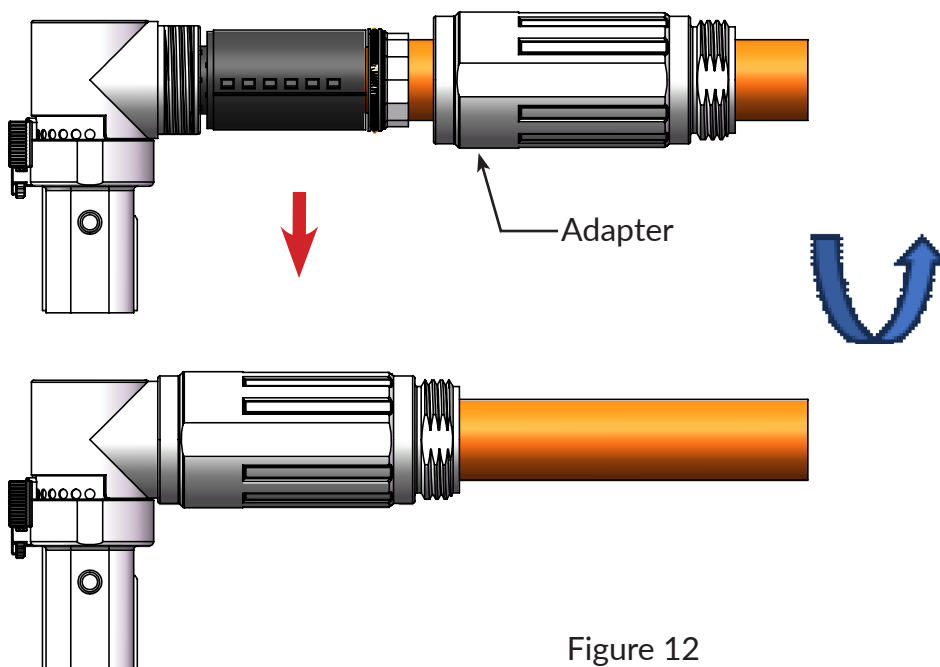

Figure 12
2) As figure 12 shown, tighten the adapter to plug shell with 31mm spanner, recommended torque is 6~8N.m;